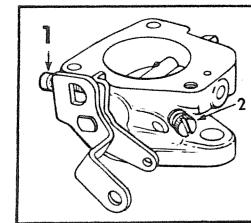

FIGURE 7
IDLE ADJ. Fig. 7
X. IDLE ADJUSTMENT. (See figure 7.)